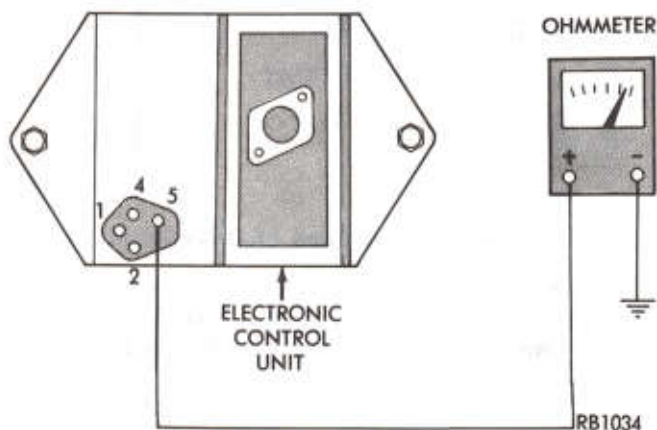

Fig. 14—Testing ECU Pin 5 for Ground
(24) Check pin 5 of **ECU** for ground (Fig. 14). If ground is good go to Step (26).
(25) If no ground is obtained check **ECU** for poor or dirty connections and for tight mounting screws.
(26) Reinstall all connections and check for spark. If no spark replace **ECU**.